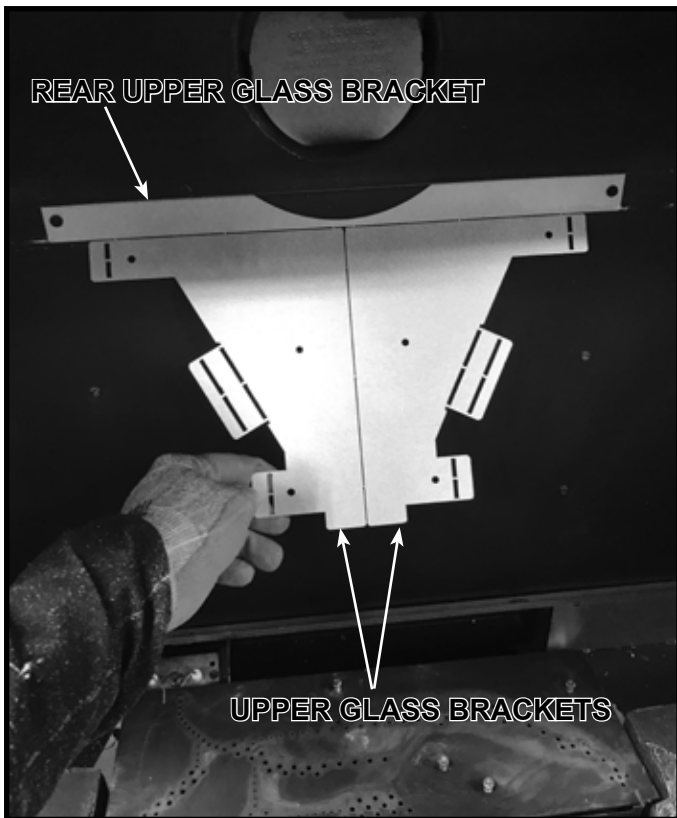
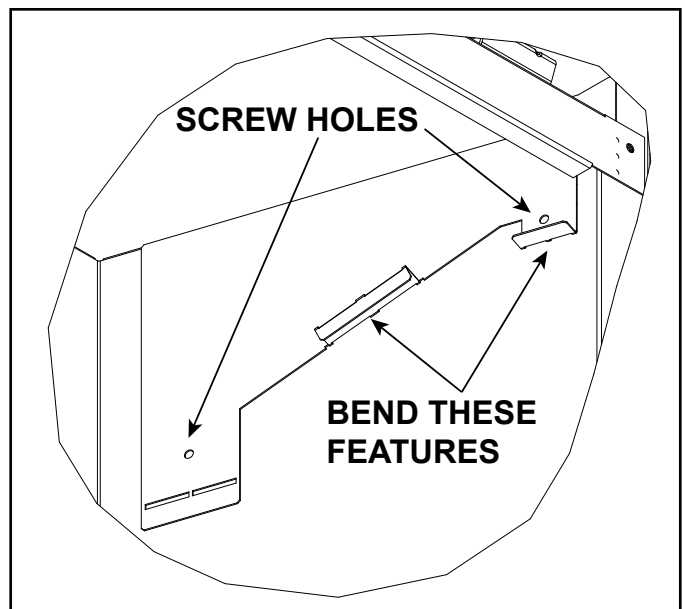
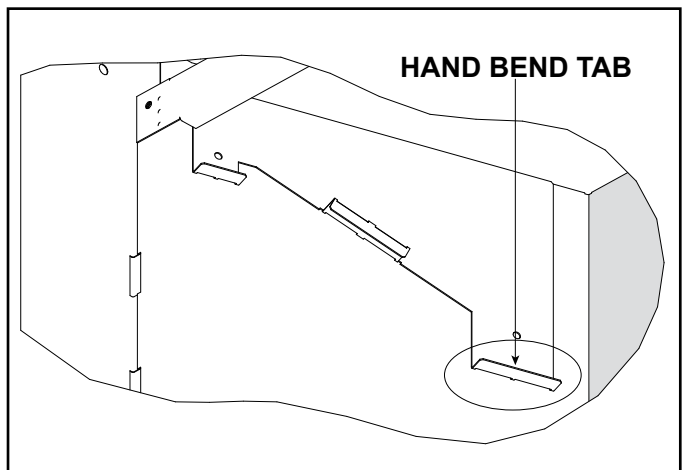

Figure 11.11 Remove Upper Glass Brackets
Figure 11.13 Bend Upper Glass Brackets
Figure 11.14 Upper Glass Brackets Installed (Left Upper Bracket Shown)
3. Remove the upper glass brackets from the back of the firebox by pulling forward on the bottom edge to break them free. Then separate them by breaking them apart. See Figure 11.11 and 11.12. Bend the “Right” bracket as shown in Figure 11.13. Bend the “Left” bracket shown in Figure 11.14.
4. Install right upper glass bracket by pushing the bracket "up" to the firebox top and "out" to the front face of the firebox. The front edge of the bracket should be tight to the firebox face and the top edge of the bracket should be tight to the firebox top. Install the bracket by inserting the two self-tapping screws through the bracket into the firebox. See Figure 11.13. Repeat this step for left upper glass bracket installation.
6. With one hand on the rear glass panel, bend "up" one hand bend tab on the upper glass bracket to approximately 90 degrees. See Figure 11.14. Bend "up" the hand bend tab on the opposing bracket. The rear glass panel is now installed. This panel will be held in place by the side panels once they are installed.